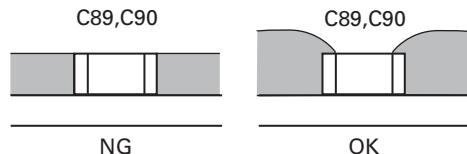

Fig. 9-2
**Note :** Use excessive solder to make it thicker than the electrodes of the chip. (Refer to Fig. 9-2.)